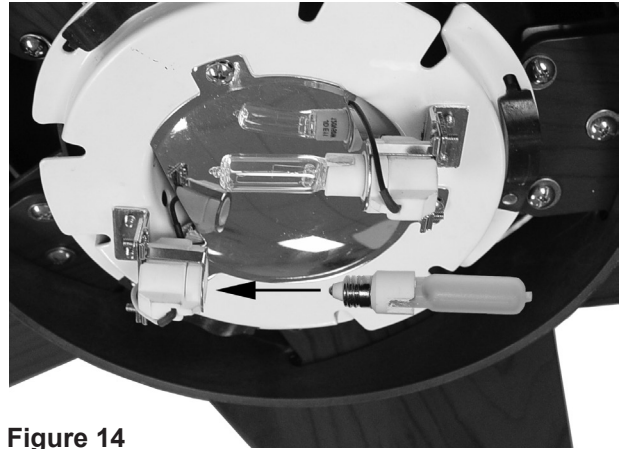

Figure 14
Step 4. Screw the two bulbs into the light fixture as shown in Figure 14.